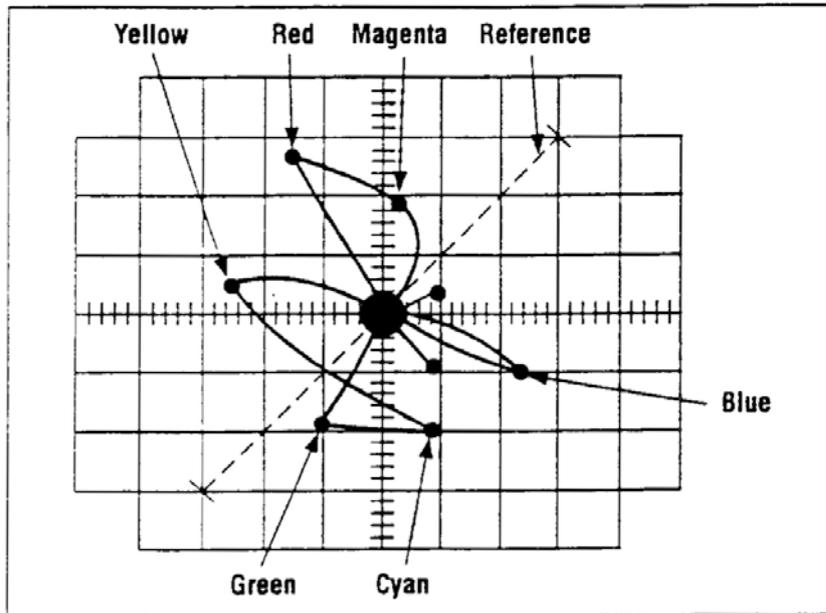

Fig. 7. Typical Vectorscope Display of Demodulated Color Bars Pattern Viewed on Conventional Oscilloscope.
If an NTSC vectorscope is not available, the demodulated color signals from the red and blue guns can be used as the X and Y inputs to a good laboratory oscilloscope (such as the **B+K Precision** Model 2120). The resulting display is a vectorscope pattern as shown in Fig. 7. The oscilloscope should be set up for vectorscope operation as follows:
6. A display similar to that shown in Fig. 7 should be obtained. However, several factors may affect the display as follows:
- a. The HUE control of the TV under test will rotate the display. The HUE control may be adjusted to obtain the display nearest to that shown in Fig. 7. Starting from a centered position, the HUE control can typically rotate the display ± 30